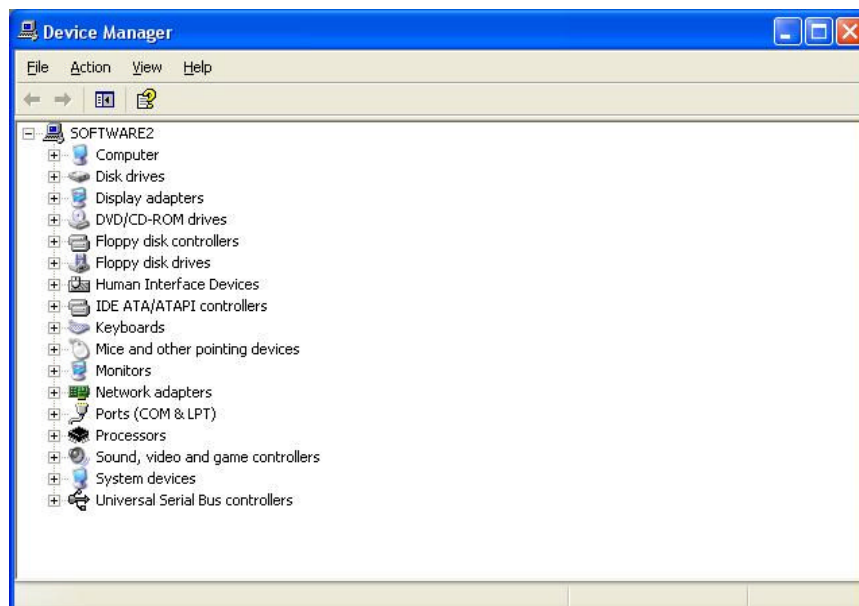

Figure 32
Step 3: The Device Manager page will be displayed as in Figure 32.